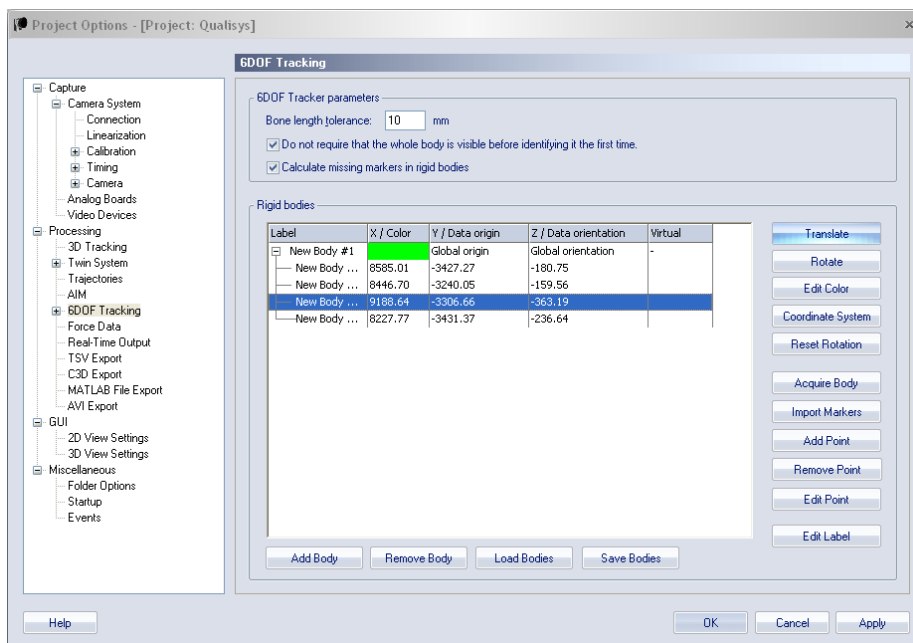

Figure 1.5: Qualisys Track Manager acquired body
3. Align the vessel with desired heading 0 and push “Acquire Body” to get the position of the reflectors. A list appears, as in Figure 1.5.
- (a) Chose a reference reflector. As highlighted in Figure 1.5, it may be practical to choose the highest-most, in this case reflector 3.